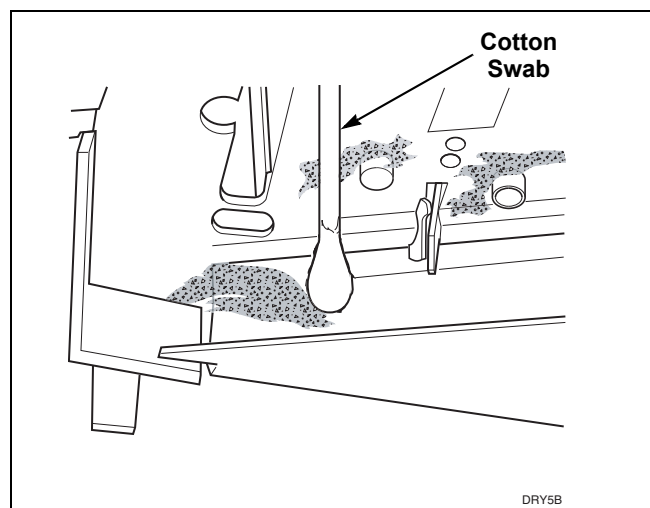

Figure 22
- Check coin path in coin drop for lint and residue. If lint or light residues are present, use a cotton swab to remove. If heavy residue is present, it may be necessary to first scrape off excessive residue and then use a cotton swab dipped in water or isopropyl alcohol (rubbing alcohol) to remove remainder of residue. Refer to *Figure 22*.